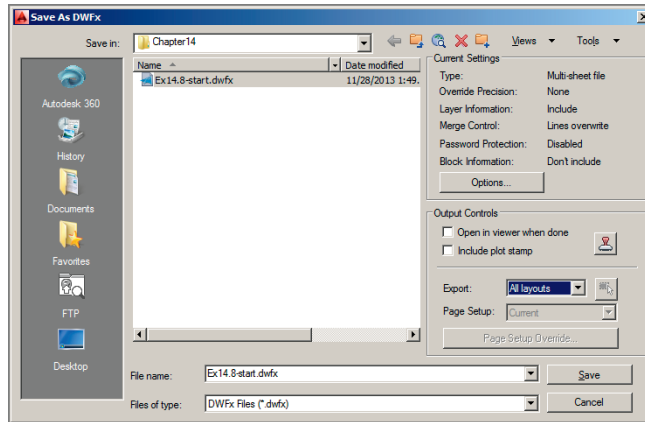

FIGURE 14.23 Save as DWFx
2. Select All Layouts from the Export drop-down menu in the Save As DWFx dialog box (see Figure 14.23). Click Save.